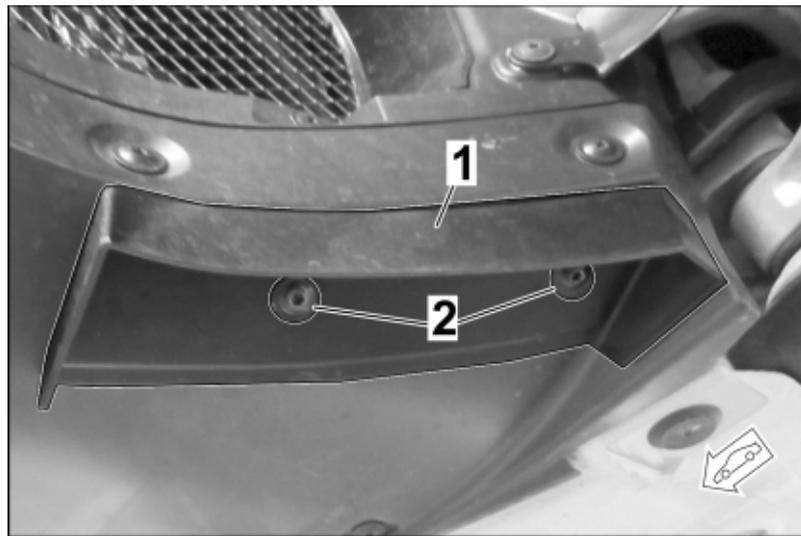

Figure 33
- 6.1.3 Remove the aero insert on the front wheelhouse liner (left/right) (⇒ *Figure 33*).